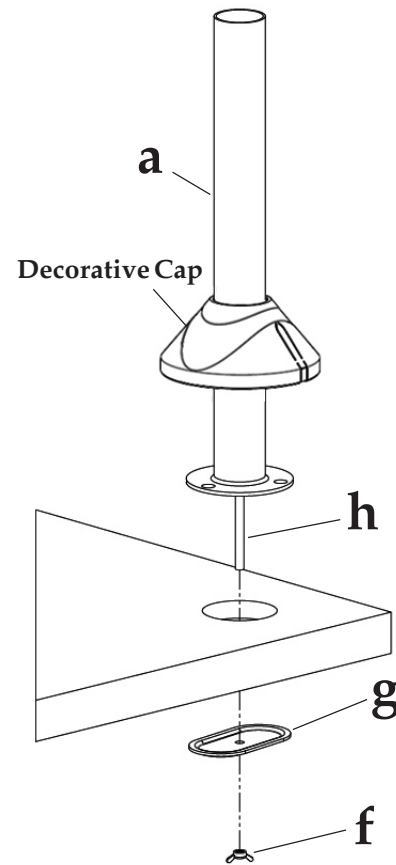

Figure 3
2. Position the Tube Support (a) on the mounting surface and secure it using the Grommet Plate (g) and Wing Nut (f), see Figure 3.
3. Install the Decorative Cap over the Tube Support, see Figure 3. This step is optional. The Decorative Cap covers the mounting surface to provide a cleaner installation.